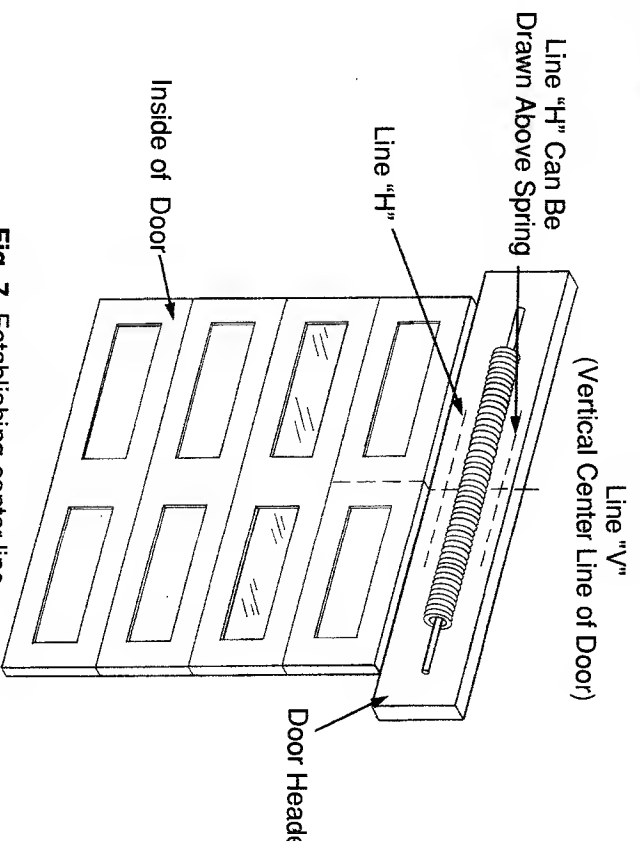

Fig. 7. Establishing center line
1 ESTABLISH CENTER LINE OF DOOR AND HEADER. (Fig. 7)
- Draw horizontal line "H" across line "V" at this point. (Fig. 7)